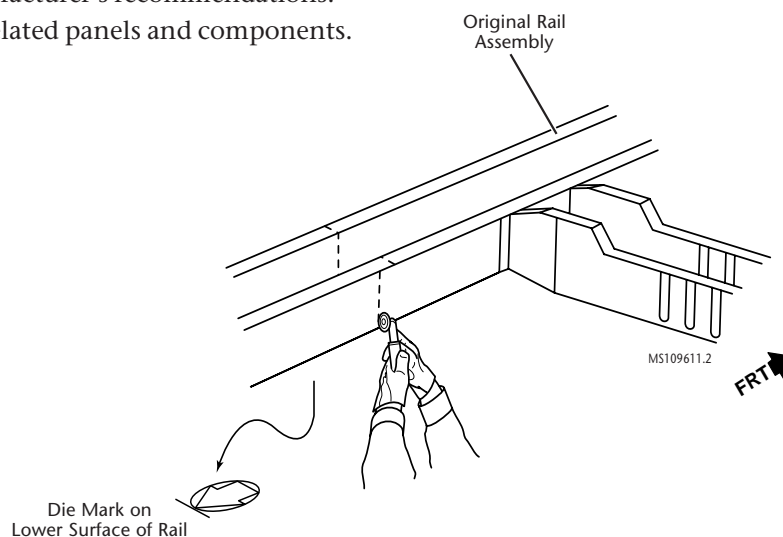

Figure 11-2:
- 5 Locate the die-mark in the rail, use a straight edge to scribe a line around the rail, mark, and cut the damaged rail accordingly (figure 11-2).